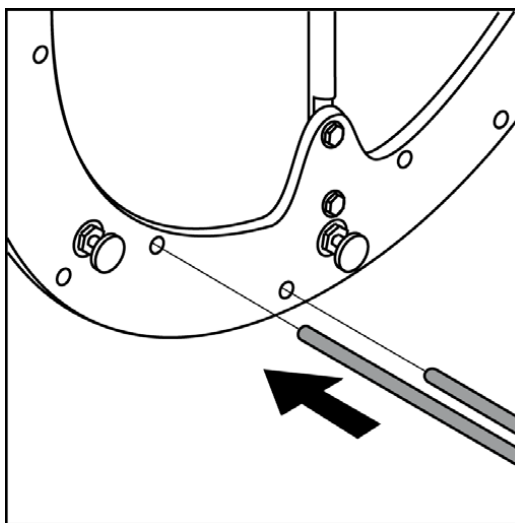

Figure 11
4. Put the points of the meat forks through the appropriate holes in the rotor disks (see Figure 11).
- With the TDR 5 you must stick the ends of the meat baskets through the appropriate holes of the rotor disks (see Figure 11).